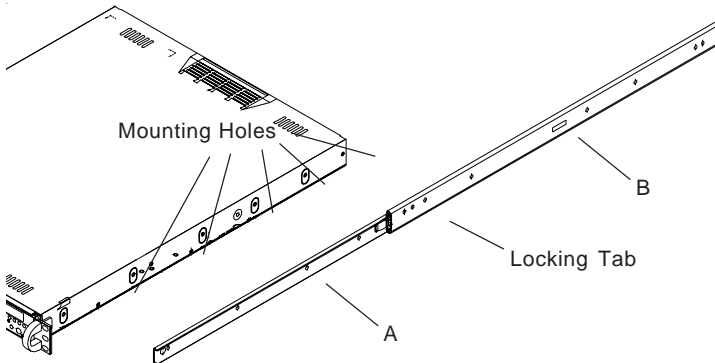

Figure 2-1. Identifying the Sections of the Rack Rails
You should have received two rack rail assemblies with the SuperServer 5013S-8/5013S-i. Each of these assemblies consist of two sections: an inner fixed chassis rail that secures to the 5013S-8/5013S-i (A) and an outer fixed rack rail that secures directly to the rack itself (B). A sliding rail guide sandwiched between the two should remain attached to the fixed rack rail (see Figure 2-1). The A and B rails must be detached from each other to install.